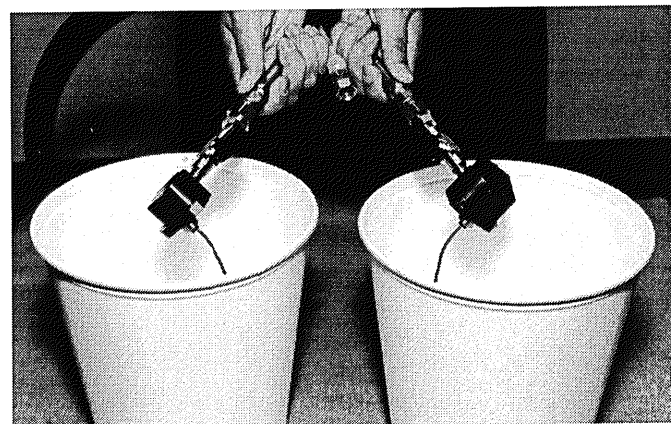
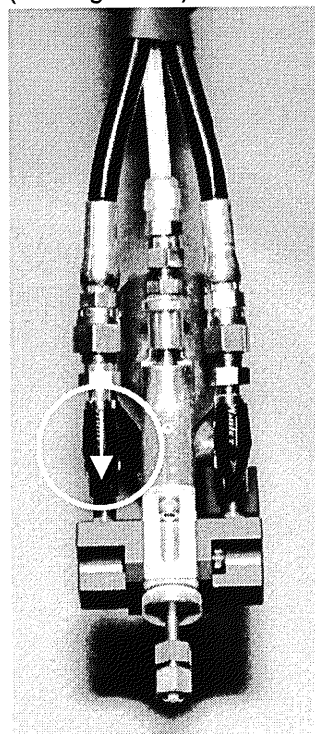

Fig. 1
Fig. 2
3. Place separate clean containers under each individual Side Block. Open manual Material Valves (black arrow forward, see Fig. 2 & 3) on each Side Block to allow trapped air to escape the Hose and material to flow into the containers until all air is purged from the material system. (see Fig. 1)
(see Fig. 2 & 3)